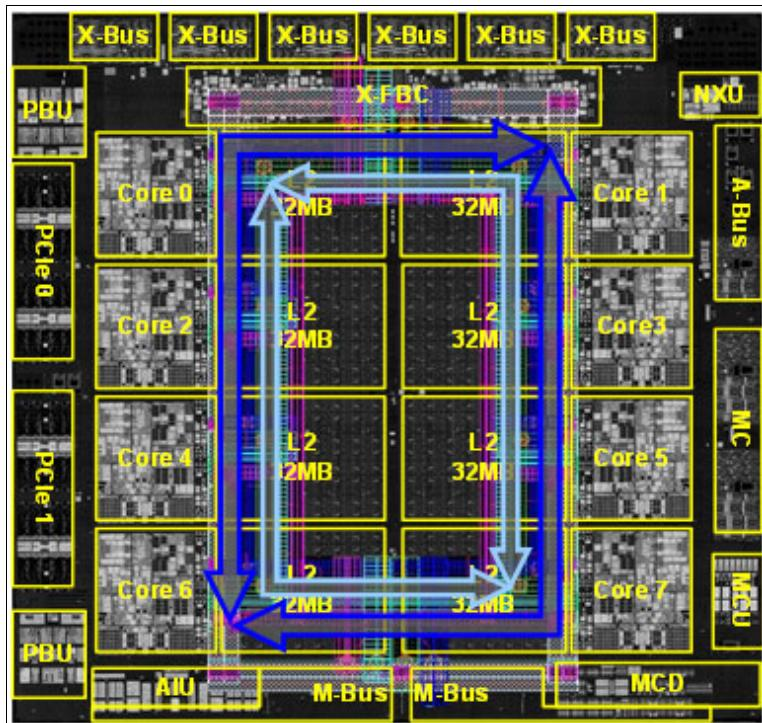

Figure 9-2 PU chip structure (with bidirectional ring shown)
- ▶ Each core has private L1 (instruction and data) caches and a semi-private L2 cache, which are 32 MB. The eight cores and L2 caches on the chip communicate through bidirectional high-speed on-chip ring and with all SMP, I/O, and memory interfaces (see Figure 9-2 on page 381).